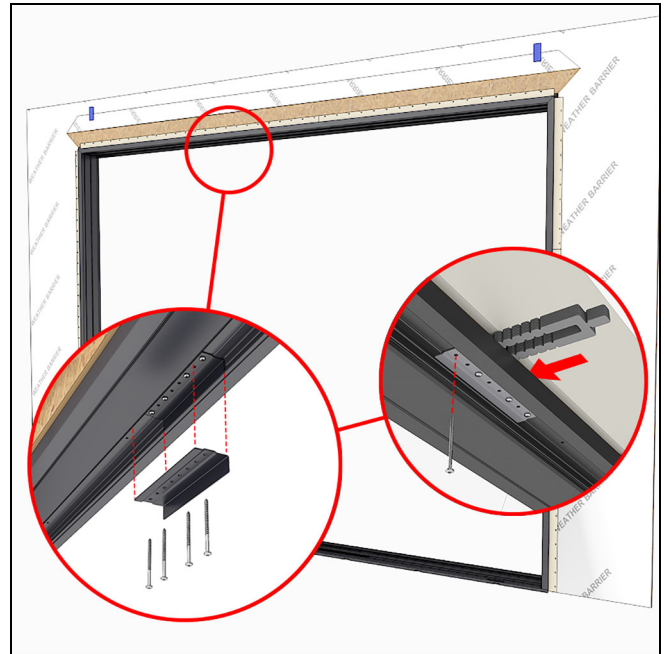

Figure 113
3. Fasten through the bracket into the head jamb framing with #10 x 3" installation screws at each pre-drilled location. Shim above the bracket as needed. See Figure 113.